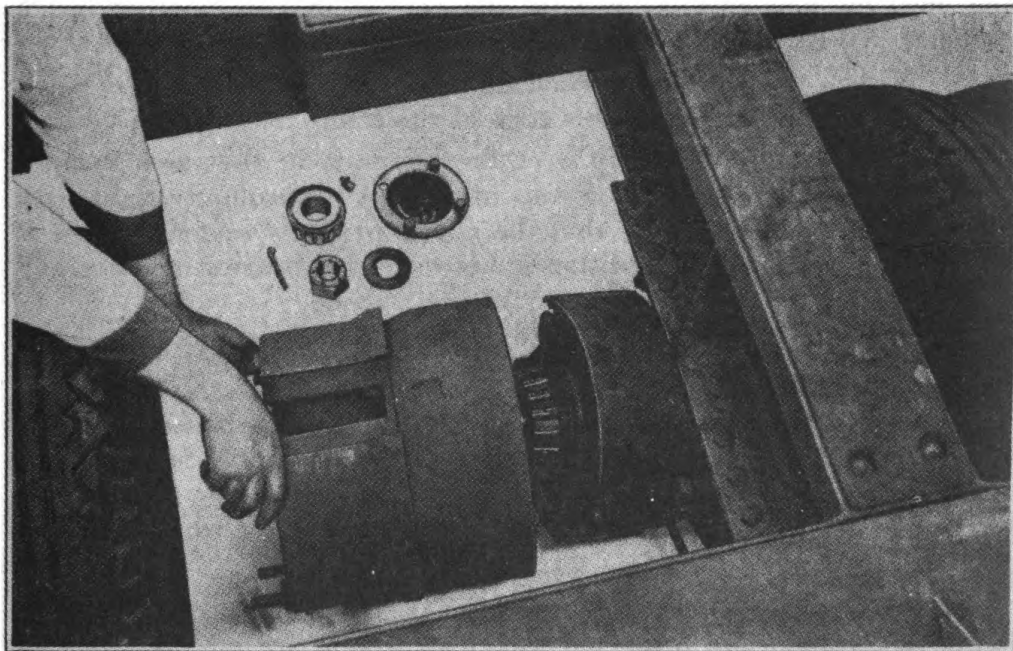

FIGURE 52. REMOVING INNER WHEEL ASSEMBLY—REAR
11. REMOVING INNER WHEEL ASSEMBLY, REAR AXLE.—*a.* Place jack under trunnion axle. Jack up until wheel clears ground. (Fig. 52.)